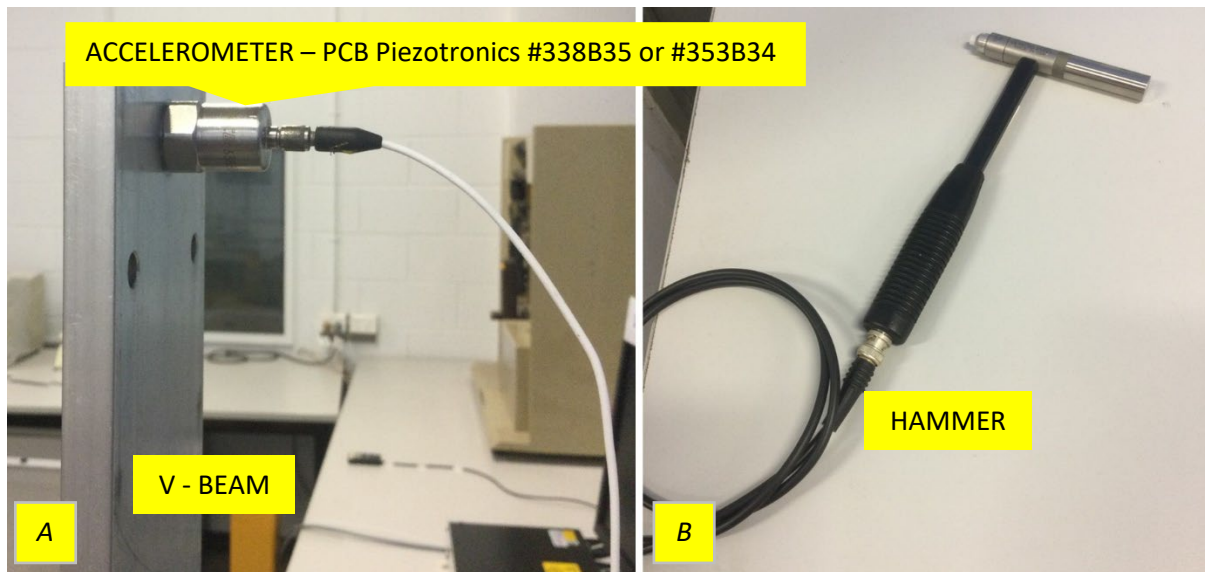

Fig. 11. The Impulse of a Vertical Beam set up (A) and connected hammer (B)
3. Install a sensor cable (PCB Piezotronics part #FCB002C10) by screwing the microdot end of cable to the accelerometer, and hand-tight the connection, as shown in Figure 11 (A).
4. Connect the BNC end of the cable to a hammer, as shown in Figure 11 (B).
5. Open two Matlab scripts (❶ *MECH3200_EXP3_R2012a.m* and ❷ *MECH3200 EXP3 FOURIER_R2012.m*) and arrange them side-by-side.